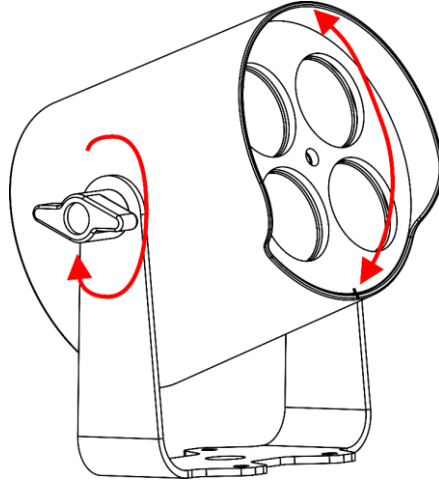

Fig. 06
The device can be positioned on a flat surface (see Fig. 06) or mounted to a truss or other rigging structure in any orientation. Make sure that all loads are within the pre-determined limits of the supporting structure.
- 01) Turn the **adjustment screws (02)** counterclockwise to release it.
- 02) Tilt the device at the desired angle (see Fig. 06).
- 03) Turn the **adjustment screws (02)** clockwise to tighten it. Make sure that the device cannot move freely after the **adjustment screws (02)** is tightened.